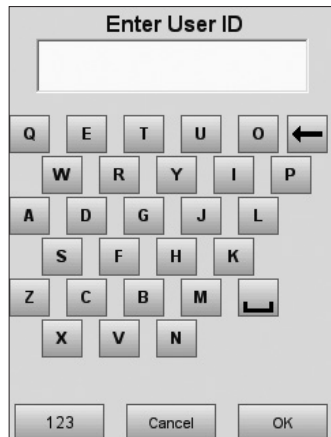

Fig. 4-13 Enter User ID
- If **<Non Secure User ID Entry>** is enabled in the security settings (see Section 3.2.3), you will be asked to enter the user ID (Fig. 4-13).